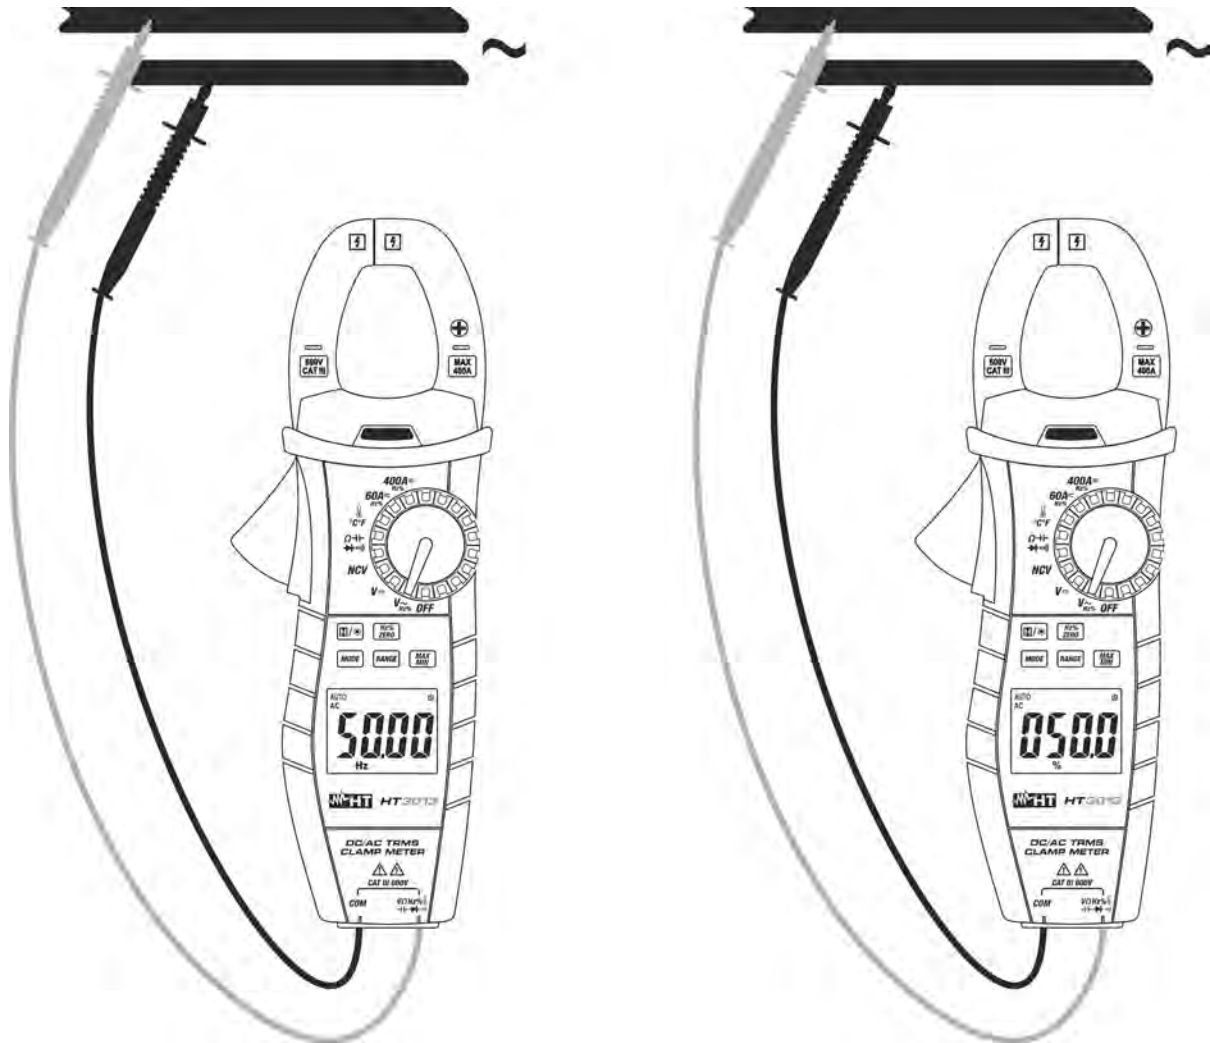

Fig. 6: Use of the instrument for frequency measurement and duty cycle
4. Position the test leads in the desired points of the circuit to be measured (see Fig. 6) The value of frequency (Hz) or of duty cycle (%) is shown on the display.